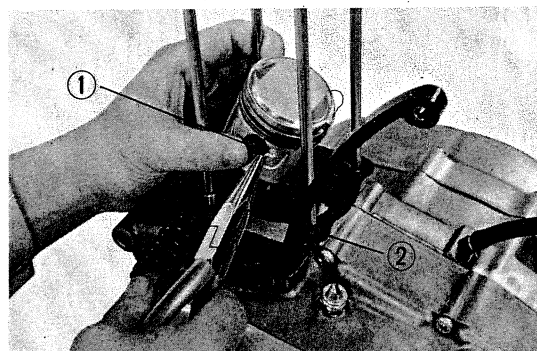

Fig. 42 Piston installation
- 2) Install the piston. (Fig. 42)